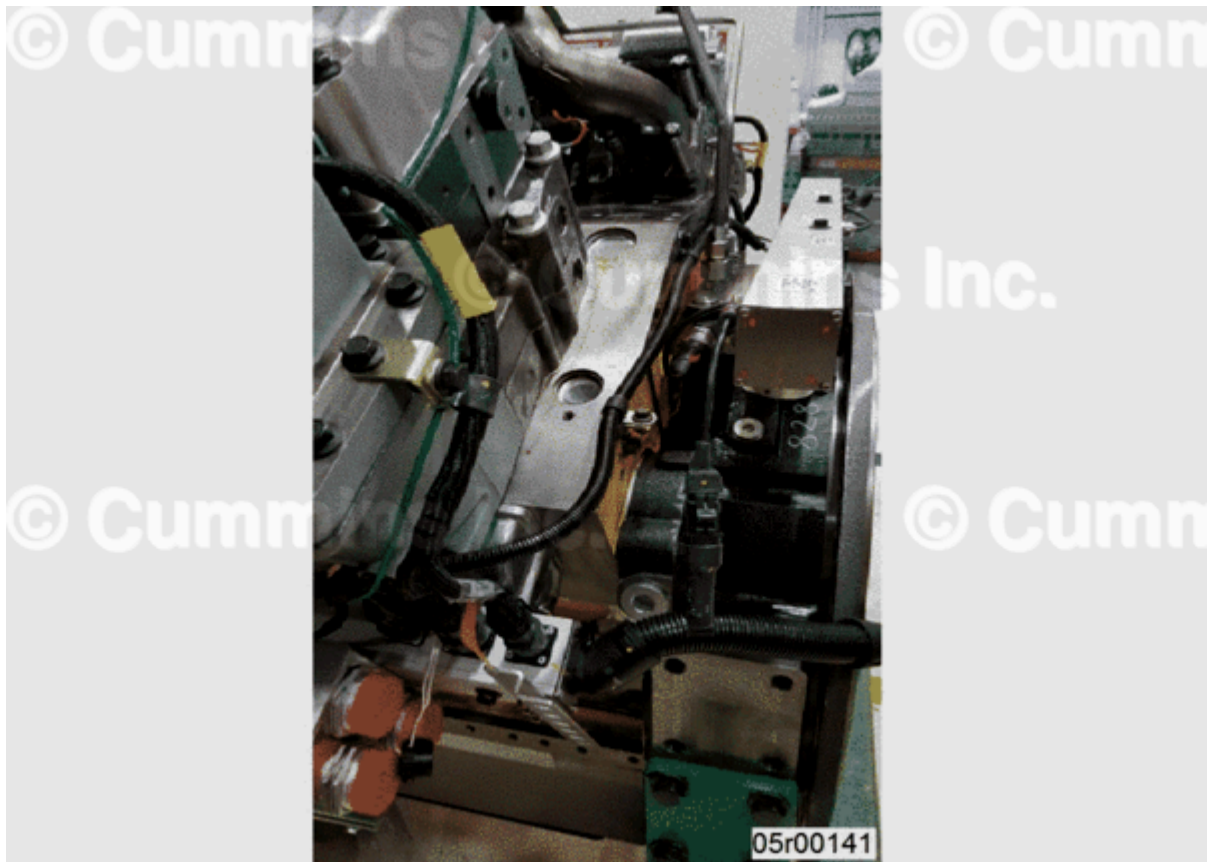

Figure 3, Wire Harness Routing Across Rear of Block.
2. Route wire harness across rear of block. See Figure 3.